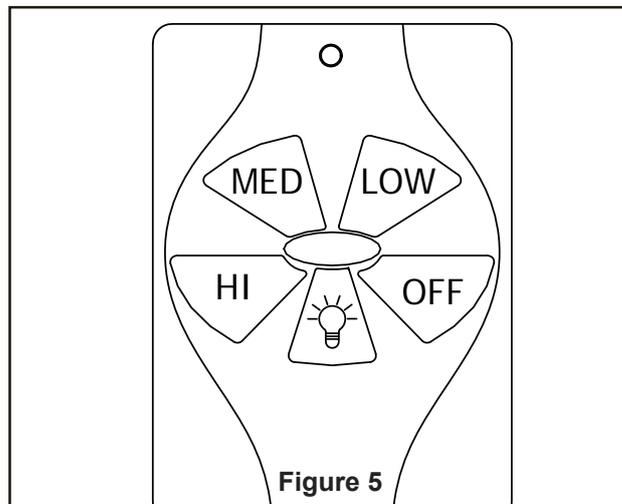

Figure 5
5. Route wires through ceiling canopy. (Figure 5)
4. After connections have been made, the wires should be spread apart with the grounded conductor and the equipment-grounding conductor on one side of the outlet box and the ungrounded conductor on the other side of outlet box, then turn leads upward and carefully push leads into the outlet box, with the white and green leads to one side of the box and the black leads to the other side. (Figure 5)
5. Remote functions: (Figure 5)